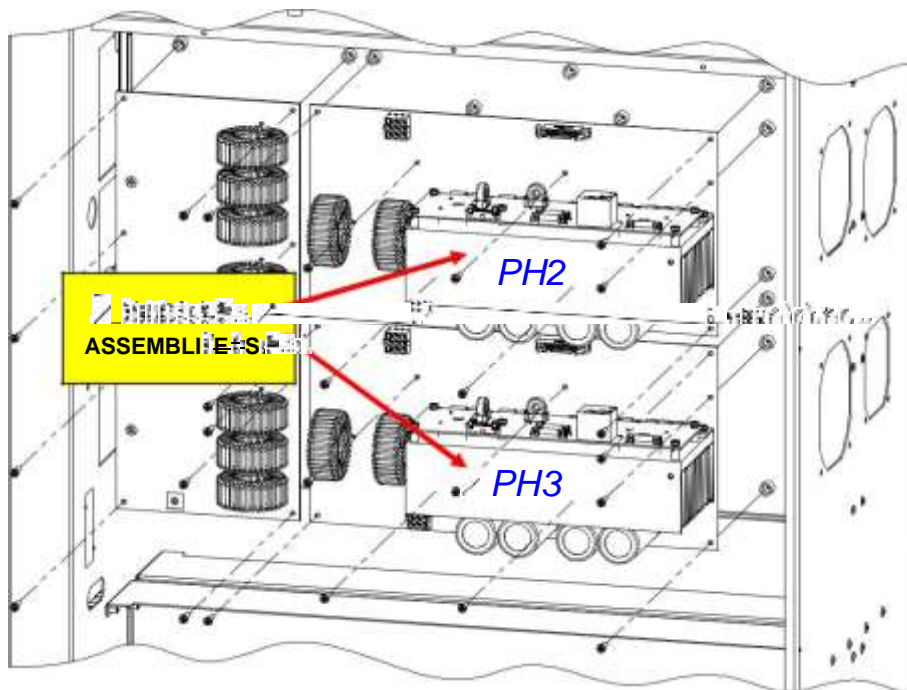

Fig. 47
- 8) Remove the screws securing board B0053; see Fig. 47.